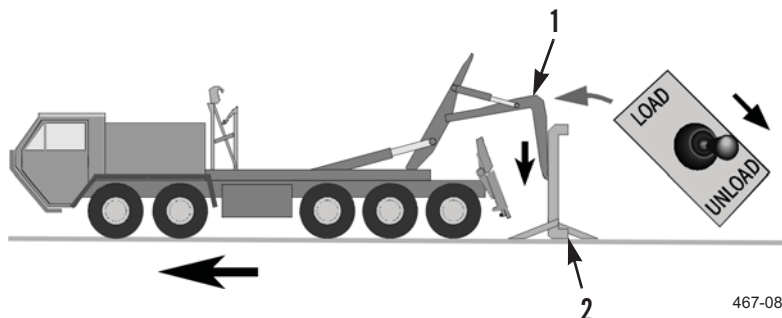

Figure 18. Lift Frame at Vertical Position and Fully on Ground.
7. Move vehicle forward and lower hook (Figure 18, Item 1) until lift frame (Figure 18, Item 2) and stand are placed fully on ground.